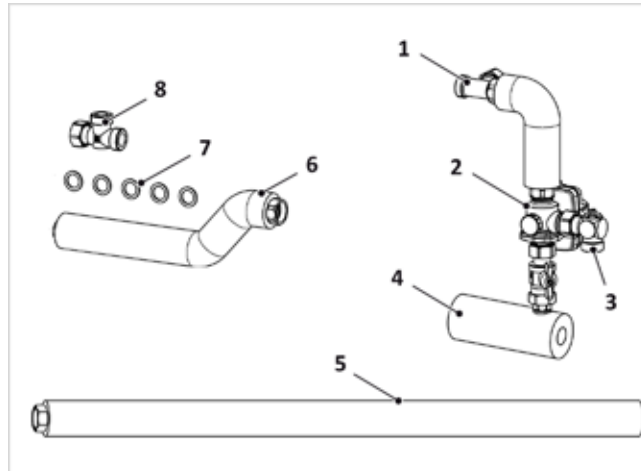
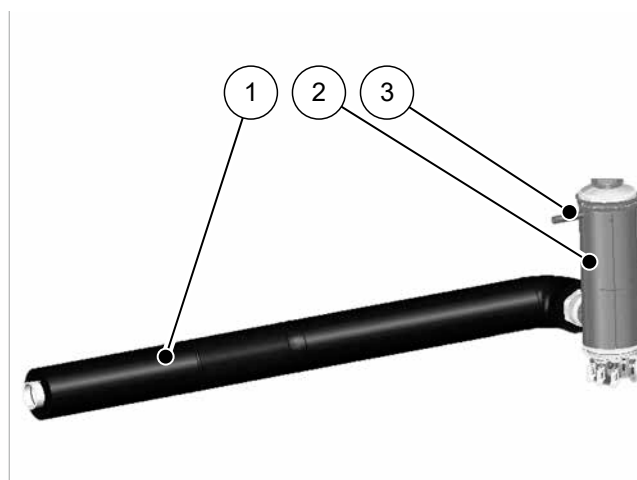

Fig. 12: Assembly pack for LM-WP 3-way valve
Fig. 17: Heating cartridge with HP flow pipe
When the SolvisMax Solo is combined with the SolvisMia or SolvisLea Eco, the supplied heating cartridge must also be integrated into the heating pump flow in the WP-SL-VSG charging module. This "LM WP-SL HPT assembly pack" (→ fig. 17) replaces the "WP-VL connection pipe" here; see → fig. 12 (5).